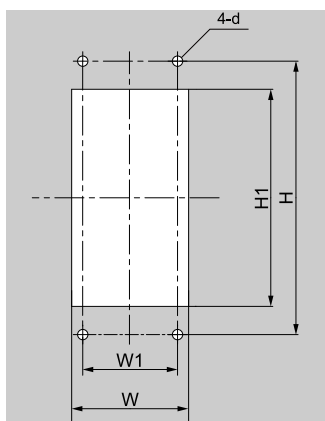

Figure 2.15 Panel Cut-Out Dimensions to Attach Inside Control Panel
1. Use the panel cut-out dimensions in Figure 2.15 and Table 2.10 to cut an opening in the control panel for the keypad.